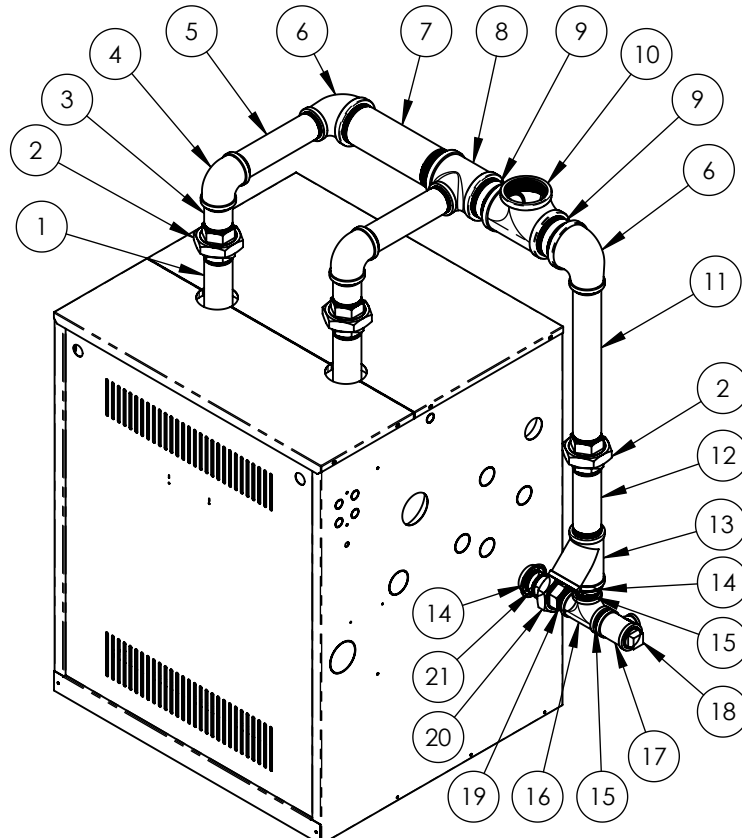

Figure 2: Standard Header Gravity Return Diagram for 5 and 6 Section Boilers
2. Assemble Gravity Return Piping Kit for 5 and 6 section boilers as illustrated in Figure 2 for Recommended configuration or Figure 4 for Dropped Header configuration.